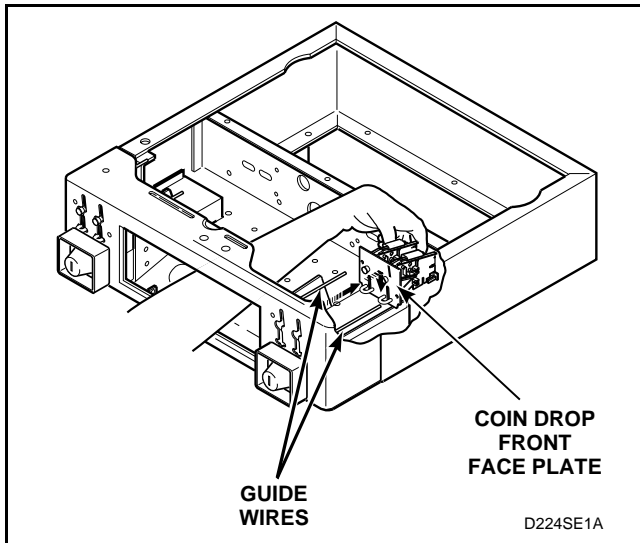

Figure 23
- (8.) Lift back end of coin drop and pull straight back until front edge of the drop's front face plate clears the two guide wires. See *Figure 23*.